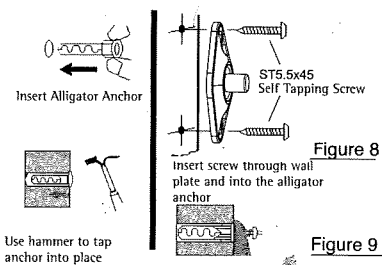

Figure 8
- With the anchors in place, mount the wall plates using the ST5.5x45 self tapping screws (Figure 8).